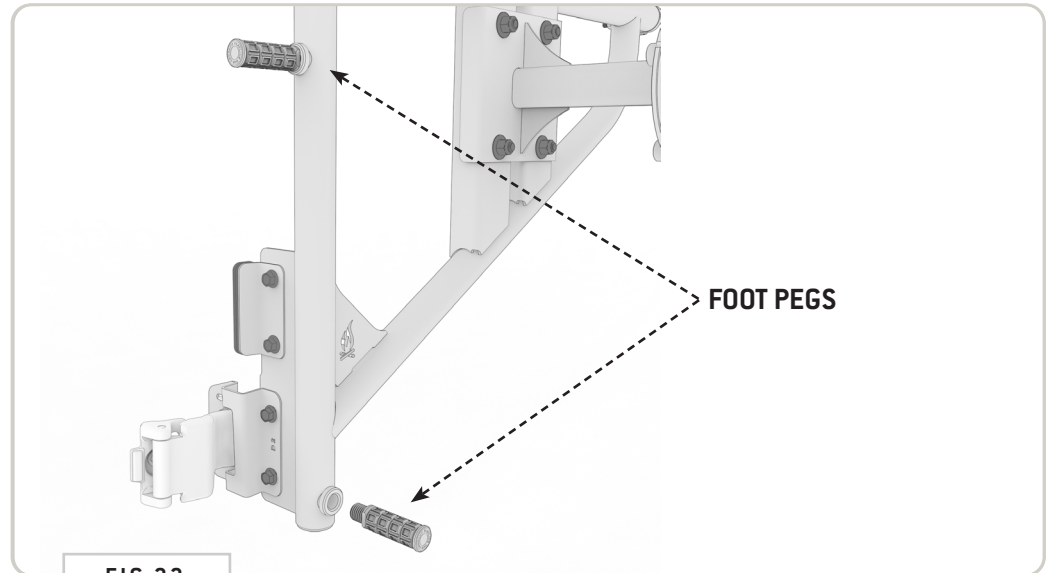
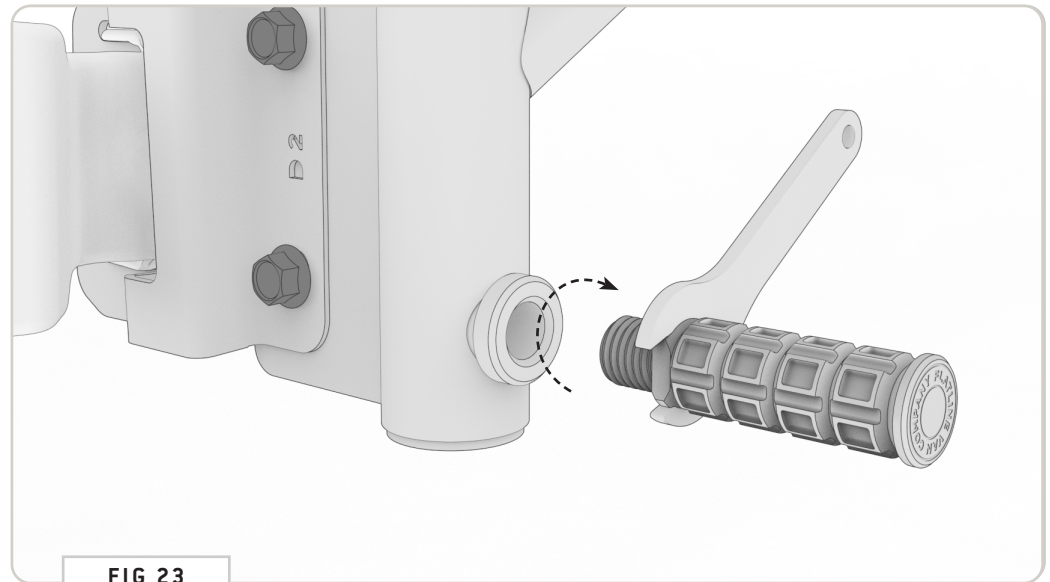

FIG 22
FIG 23
**7.1 Foot Pegs:** Add Loctite to Foot Peg threads and install to locations shown in FIG 22 using the provided **Foot Peg Wrench**. (FIG 23).